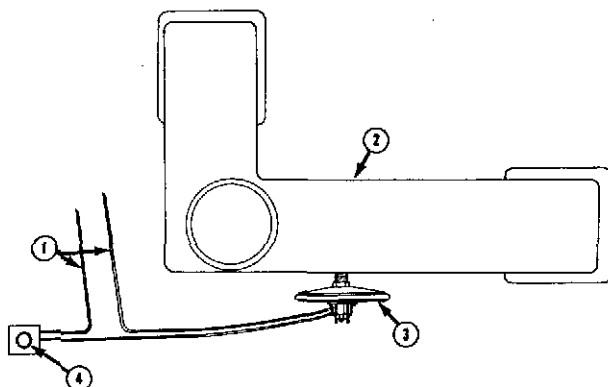

Fig. 5-10, V11010. Vacuum switch to check air inlet restriction
- a. Electric source (1, Fig. 5-10).
- b. Air intake connection with fitting for switch (2).
- c. Vacuum switch (3).
- d. Red indicator light (4).
1. On naturally aspirated engines attach vacuum gauge or water manometer in middle of intake manifold or on air intake crossover. See Fig. 5-10.